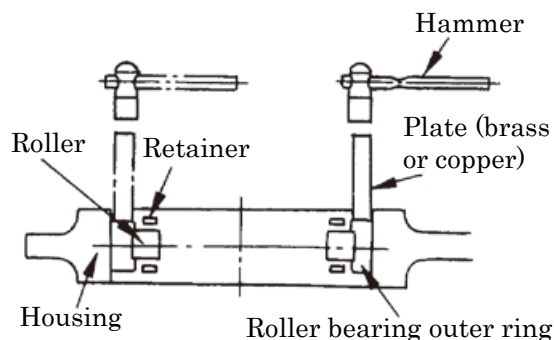

Fig.17 Removal of roller bearing outer ring
- (1) The pliers is used for removing the C-type snap ring and the puller for removing the slinger and bearing.
- (2) For the roller bearing, apply a brass or copper plate to the outer ring and alternately hit it at diagonal positions on the circumference with a hammer to remove it from the shield. (Fig.17)